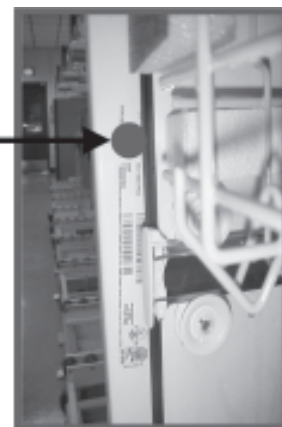

FIGURE 17
39. Install the green label supplied in the kit at the top of the model/serial tag just below the Brand logo. If the dishwasher is to be repackaged, place a second green label on the model/serial tag that is on the outside of the carton. (Fig 17)